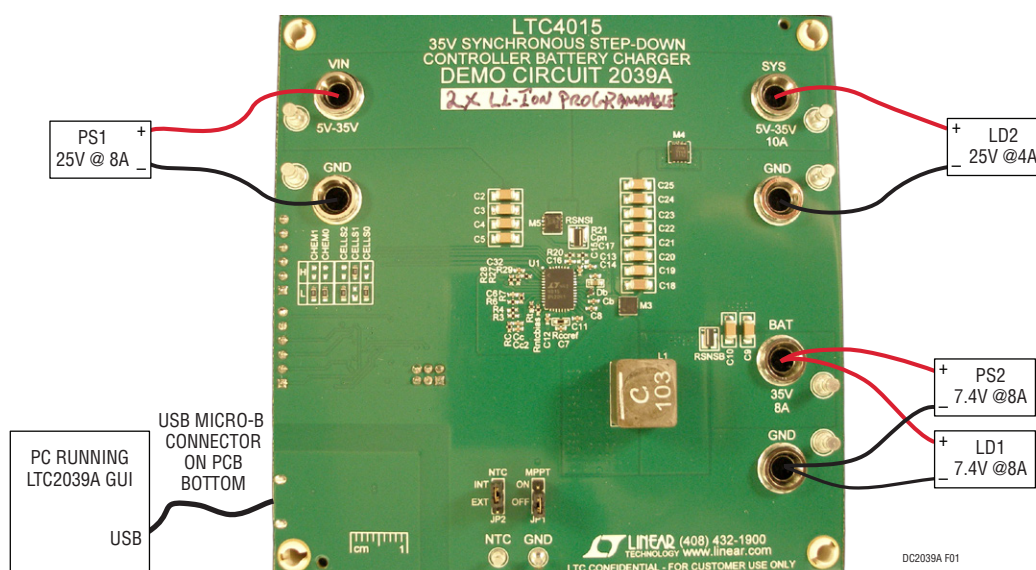

Figure 1. Test Setup for the DC2039 Demo Board
1. Update to the latest version of QuikEval™ and start QuikEval on the PC. Plug the Micro-B connector on DC2039A board directly into the PC, with the appropriate USB cable, as shown in Figure 1.